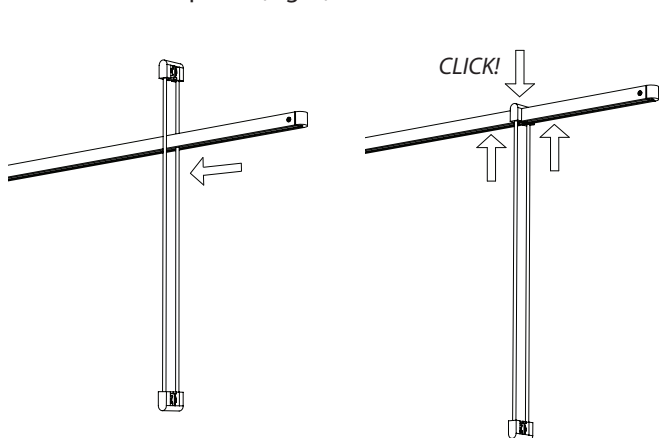

Fig. 1
1. Pass one end of the Parallel Power Bar Hanger over the end of a Power Bar. (Fig. 1)
2. Press down firmly on the top of the Power Bar Hanger, while pressing up on the bottom of the Power Bar, until the Power Bar Hanger clicks into place. (Fig. 1)